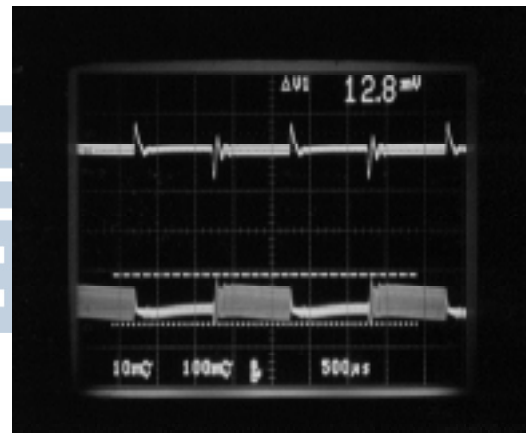

Figure 6: When a transient is applied on the LM2596 output, the effect of the transient is observed on LM2675 output.
- d) When a transient is applied at one output, the effect of the transient is observed on the other output, as shown in *Figure 6*.